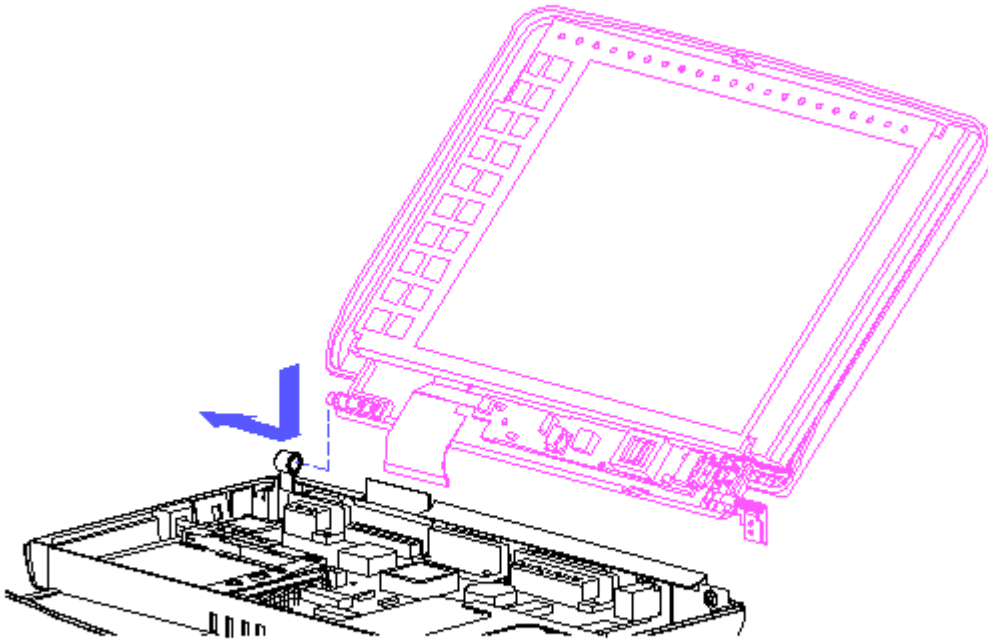

Figure 3-14. Aligning the Display Clutch with the Base Enclosure
1. Position the display assembly by aligning the display clutch and pin with the support loop and keyed bushing (Figure 3-14).